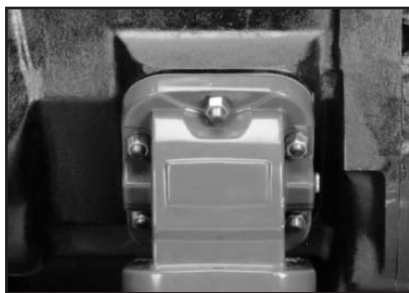

Fig. 5
5. Mount the adapter to the transmission with the gaskets provided. Then check and set backlash between the adapter and the transmission (**Fig. 5**).